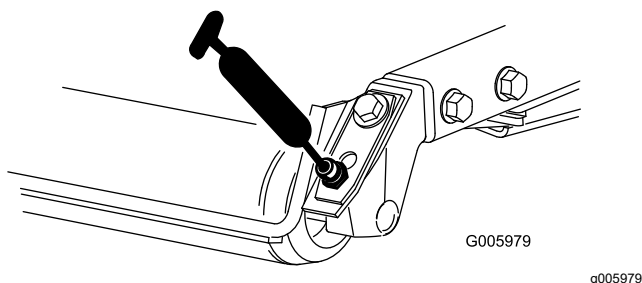

Figure 55
- Rear roller bearings (2 per cutting unit) as shown in Figure 55